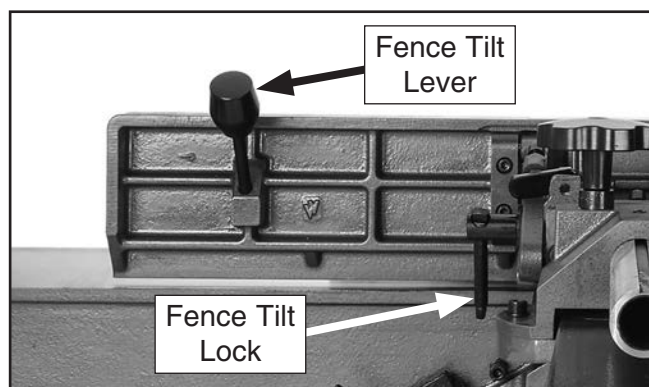

Figure 21. Fence tilt lever installed.
16. Install fence tilt lever (see **Figure 21**).
17. Loosen fence tilt lock (see **Figure 21**), tilt fence to 90°, then tighten lock.